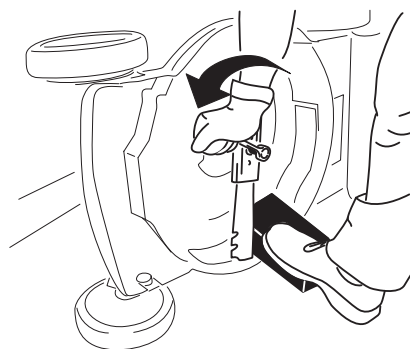

Figure 22
2. Use a block of wood to hold the blade steady (Figure 22).